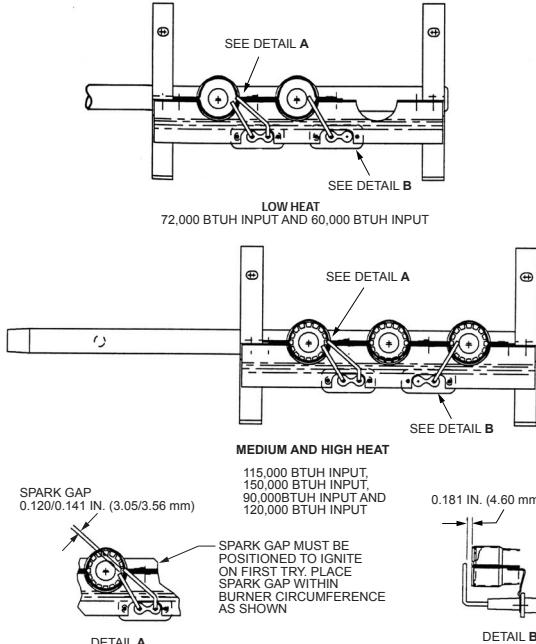
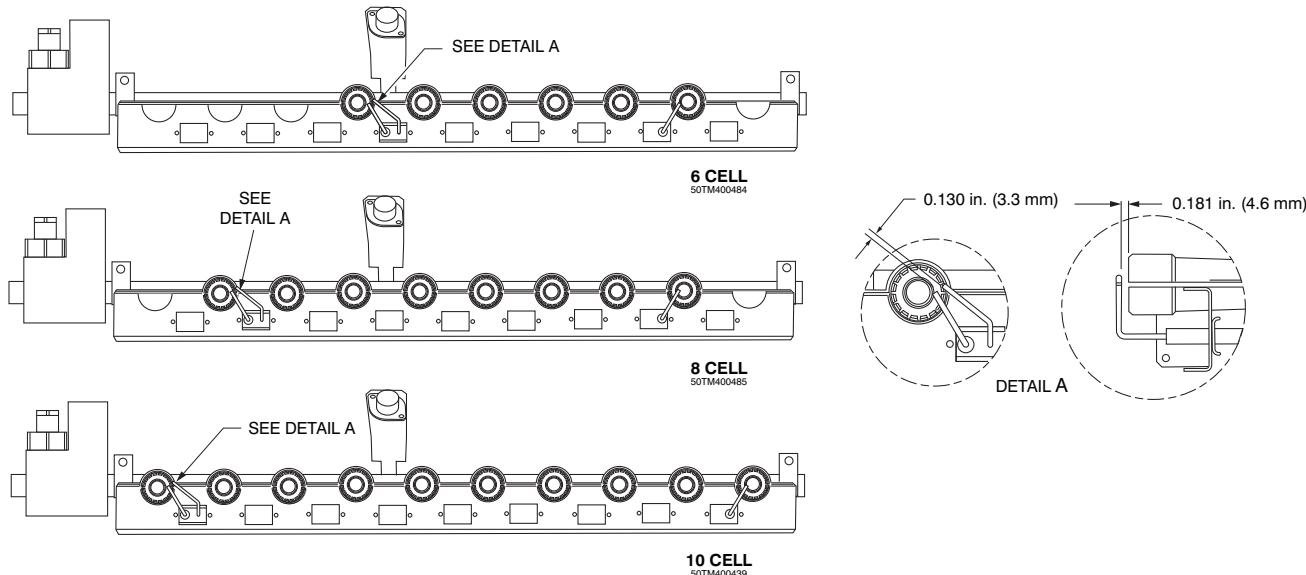

Fig. 65 - Spark Adjustment (04-07)
Fig. 67 - Spark Adjustment (Size 16)
- Adjust spark gap. See Fig. 65, 66 and Fig. 67.